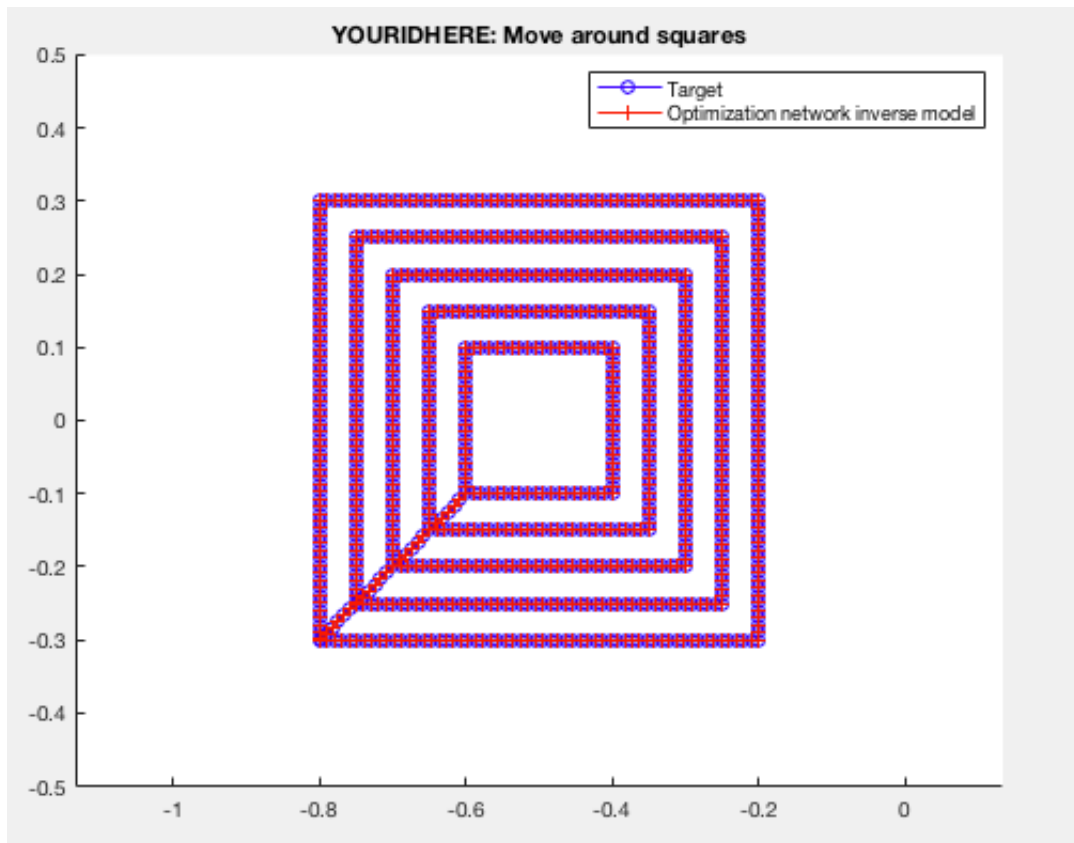

Figure 5. 2-D revolute arm testing trajectory output plotted on top of target trajectory [15 marks]
- This should lead to very good agreement between the target and estimated values, like that shown in **Fig. 5.** (overleaf)